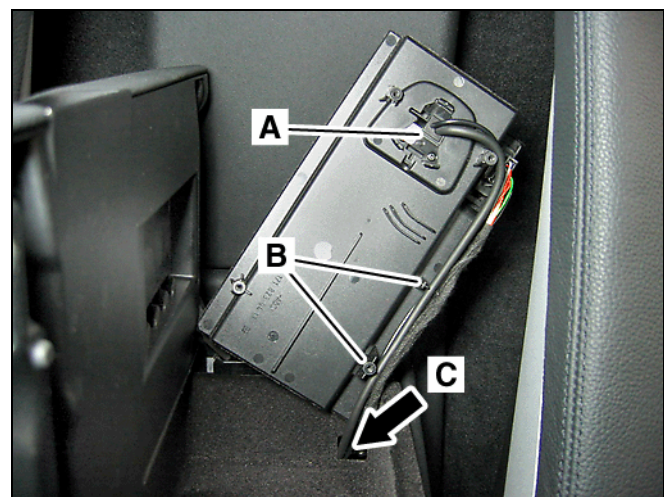

**Figure 25**
6. Feed the contact plate leads through the knockout hole from the false floor top side (Figure 25).